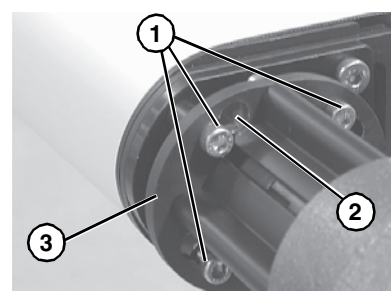

Figure 5
4. Slide mounting screws (**Figure 5, item 1**) through slots (**Figure 5, item 2**) in gearmotor bracket (**Figure 5, item 3**) and rotate gearmotor assembly into desired position.